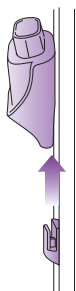
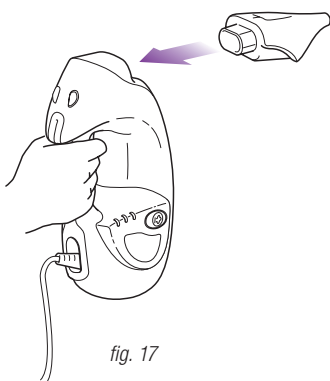

fig. 16
fig. 17
- 2 Remove the Direct Steam Nozzle from the storage clip on the mop handle and attach it by pressing the nozzle onto the Handheld Steamer until it clicks into place. (fig. 16, fig. 17)